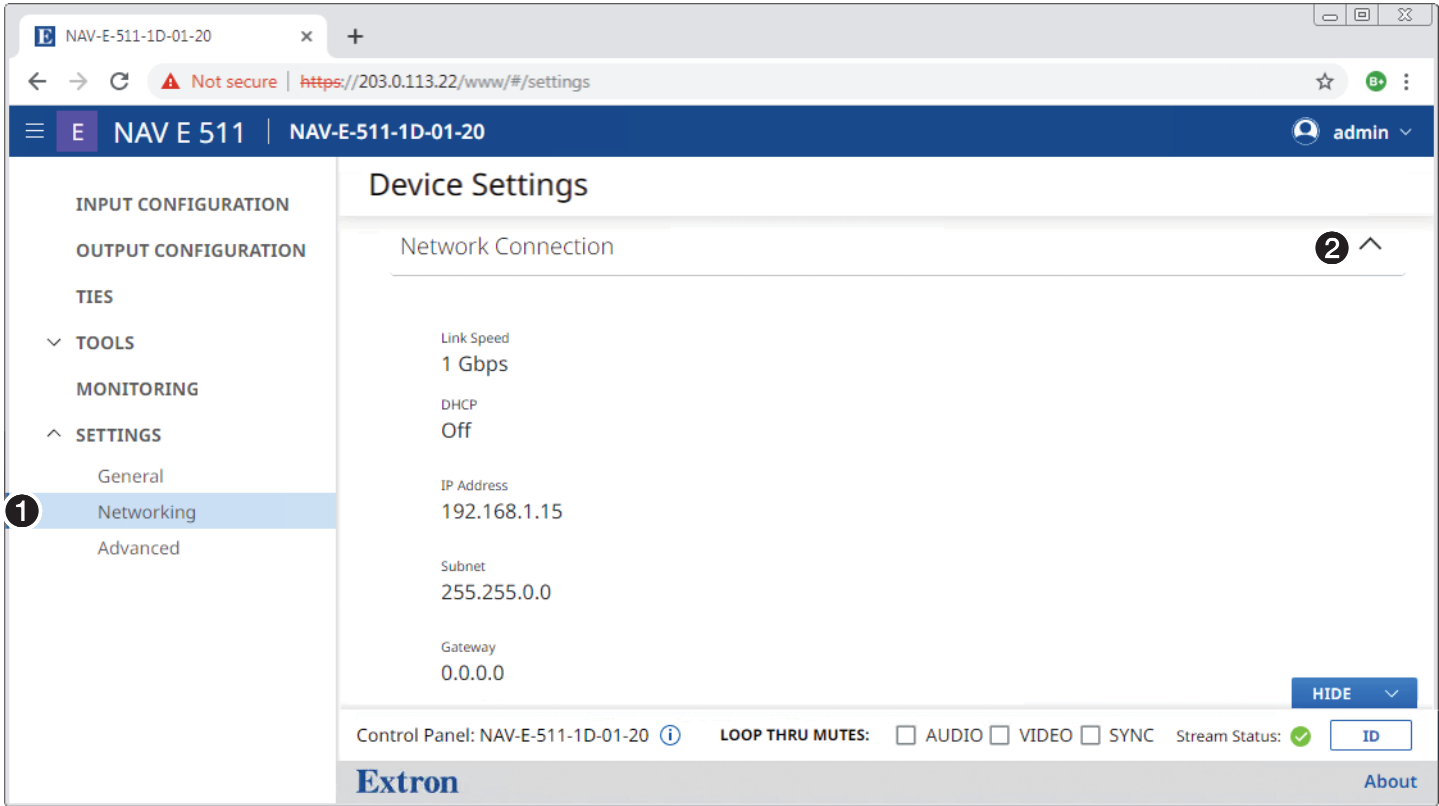

Figure 5. HTML Page
- 6. Enter the Username (see figure 4, 1) and Password (2) and click SIGN IN (3). The browser opens to the embedded web pages (see figure 5 on page 5).
- 1. On the home page, click **Settings** (see figure 5, ①) > **Networking**.